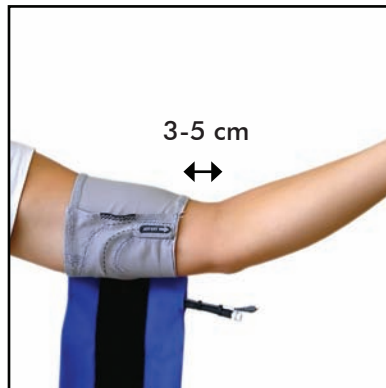

Figure 7: Proper placement of microphone
- c. Place the **ARTERY** marker (which is where the microphone is located in the sleeve) over the brachial artery, about 3-5 cm above the elbow. The microphone should be on the medial part of the arm, not the top of the bicep (Figure 7).